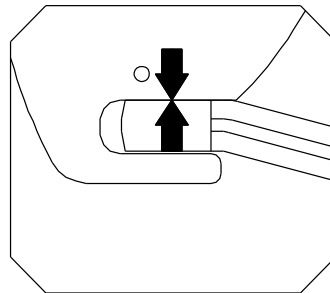

fig 7
5.6 See figure 7, figure 8. Each frame of indicating instrument means 50kg. Pointer aims at six frames in figure 7, which means the weight of goods is 300 kg. Pointer aims at 13.6 frames in figure 8, which means the weight of goods is 680 kg.